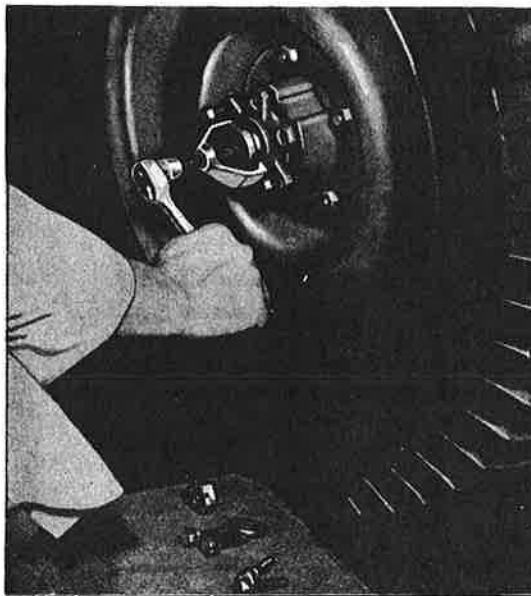

FIG. 217—AXLE SHAFT DRIVE FLANGE PULLER
- d. Apply the foot brakes and remove the axle shaft flange with puller W-163 which is illustrated in Fig. 217.